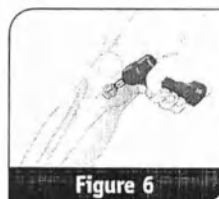

Figure 6
- a. Position driver at insertion site with needle set at a 90-degree angle to the bone. (See Figure 6) **Gently** power or press needle set until needle set tip touches bone.
- c. Penetrate bone cortex by squeezing the driver's trigger and applying **gentle, steady downward pressure**. (See Figure 6)